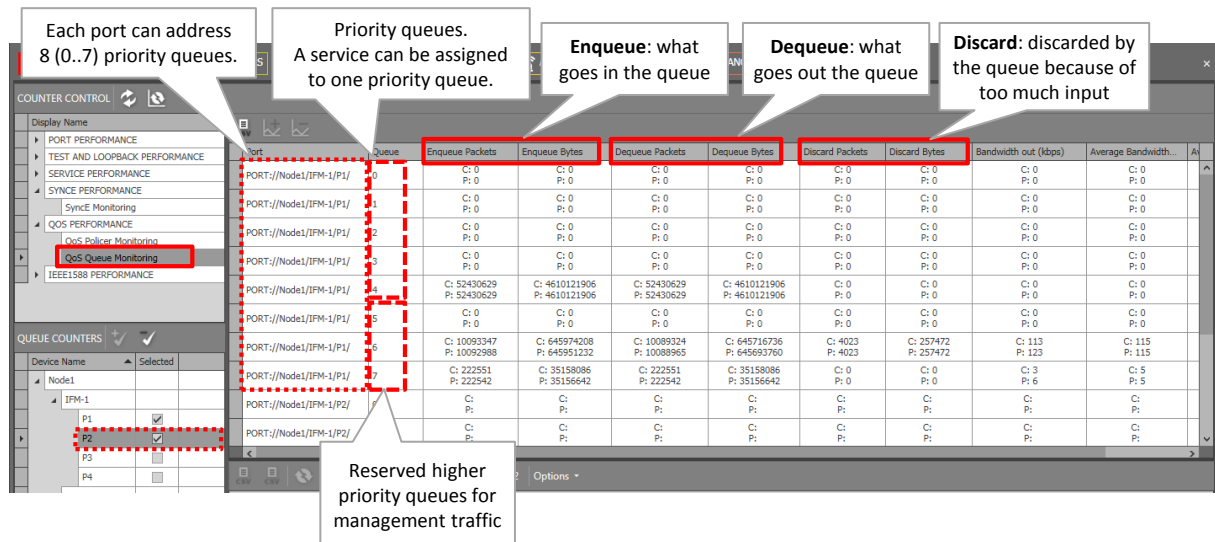

Figure 196 QoS Queue Monitoring
- ▶ **QoS Queue Monitoring** (Figure 196): shows how many packets go in and out the priority queue. E.g. if a service 'Video147' has been assigned priority 3, and port 7 is an endpoint of this service, packets received on port 7 and transmitted on the Dragon PTN network, will travel through priority queue 3.